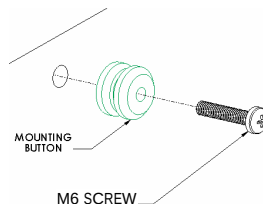
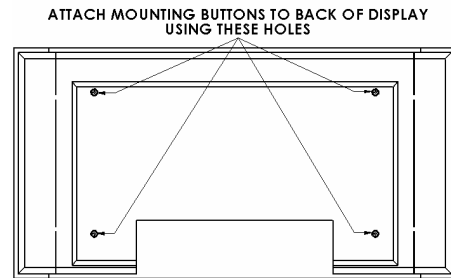

Figure 3
Figure 4
2. Attach mounting buttons to display using the M6 screws provided (see Figure 3 & Figure 4).